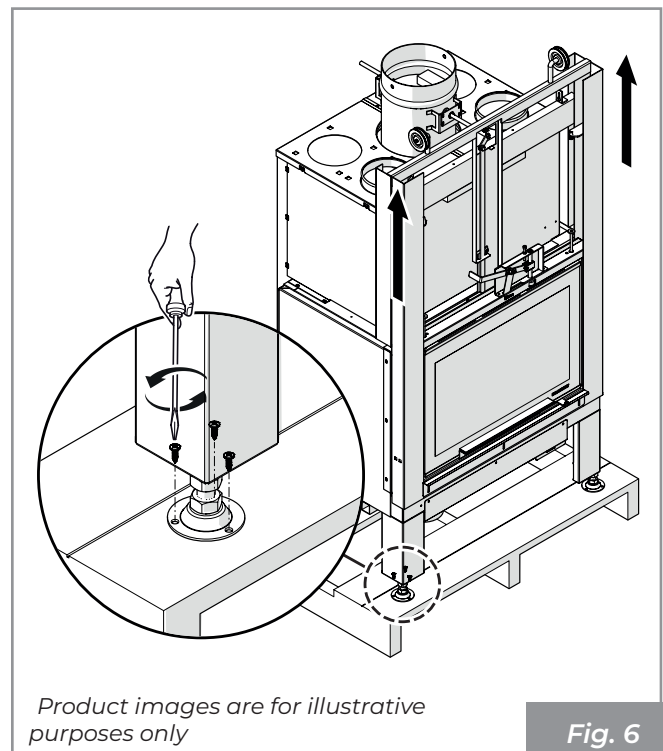

Fig. 6
- Ensure that the ropes are in the grooves of the pulleys and then release the counterweight by removing the fixing brackets (**A - Fig. 6**) and then the clamps.
Remove the screws that secure the feet of the appliance to the pallet (Fig. 6) and remove it.